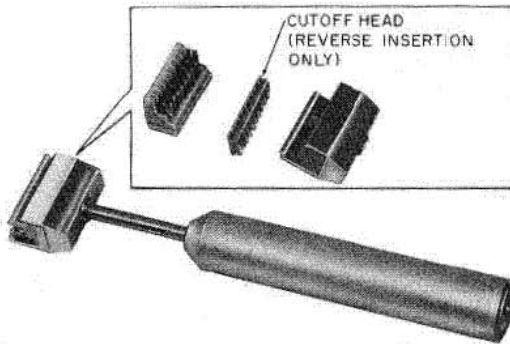

Fig. 13—788J1 Tool, Impact Insertion
**2.18** The 788J1 impact tool (Fig. 13) is used to perform the same functions as the 788B2 and 788C1 tools, but it has a spring-loaded handle designed to supply the proper impact force to seat and cut off conductors or to insert the connecting blocks. The blade section of the head is easily removed for replacement or positioning for wire seating/cutoff or seating only. The 88-type connecting blocks should be placed on the index strips, by hand, before insertion, using the tool. The 788J1 tool replaces the 788H1 which is rated MD.